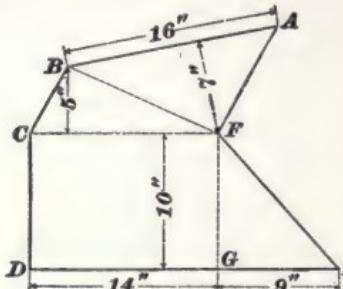

FIG. 37.
EXAMPLE.—It is required to find the area of the polygon  $A B C D E F$ , Fig. 37.
- Find the area of the polygon  $A B C D E F$  (see Fig. 37), supposing each of the given dimensions to be increased to  $1\frac{1}{2}$  times the length given in the figure. Ans. 621 sq. in.